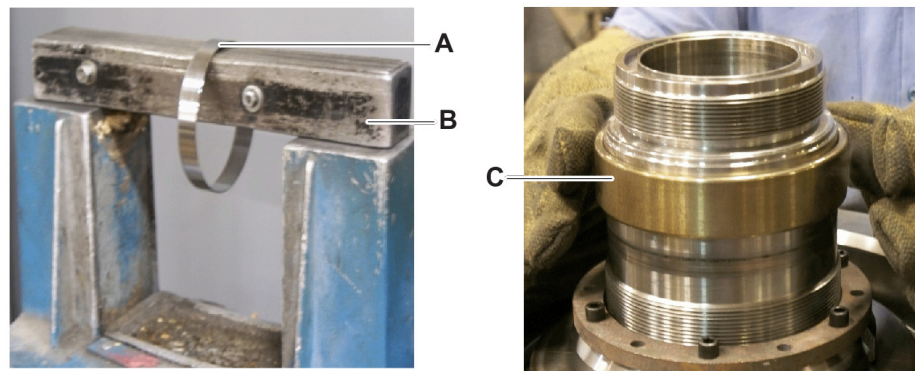

Figure 1
1. Heat the wear sleeve (Figure 1, item A) to between 121 °C and 135 °C (250 °F and 275 °F) on the heater (item B). Use protective gloves and put the heated sleeve (item C) over the spindle. Let the sleeve cool and shrink fit onto the spindle. Apply a thin layer of clean grease to the outer surface of the sleeve.